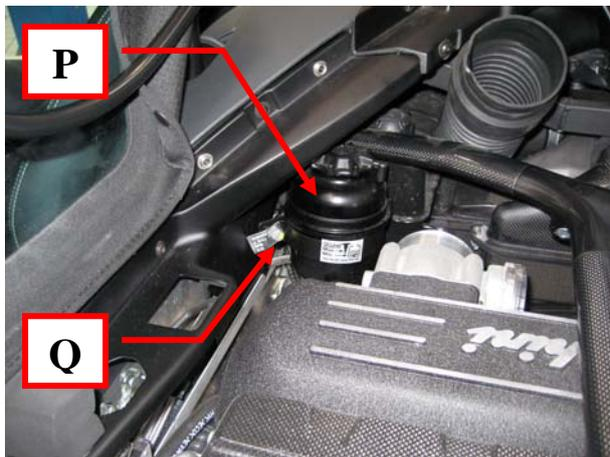

Fig. 13
- Fasten the E-Gear fluid tank (**P-Fig. 13**) and tighten the mounting clamp (**Q-Fig. 13**).